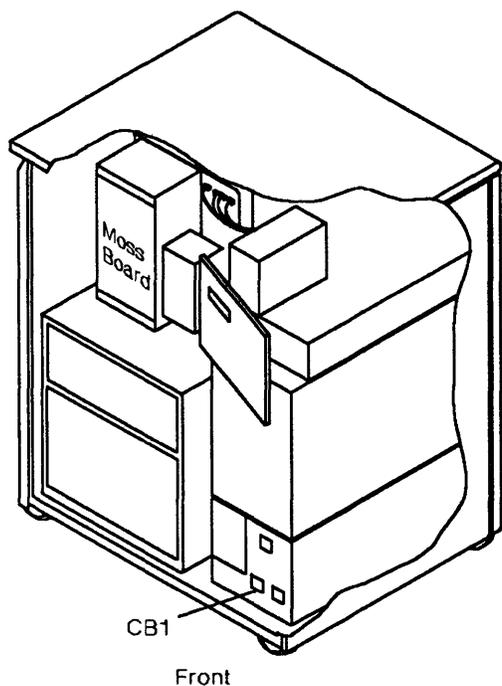

Figure 4-117. MOSS Board and CB1 Locations
4. **Switch CB1 OFF.** Refer to Figure 4-117.
5. Locate the board. Refer to Figure 4-117.